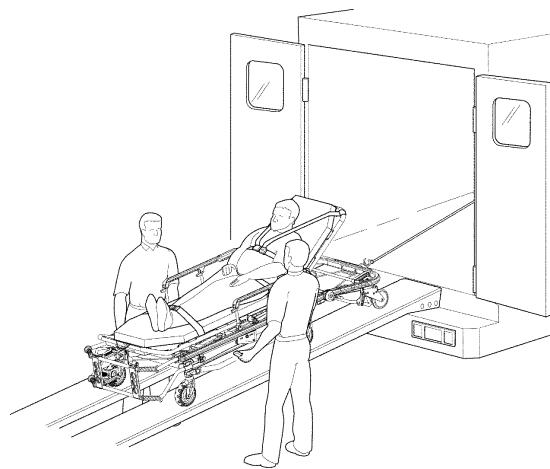

Figure 20 – Loading and unloading the cot with the tow package option
2. Make sure that the length of the loading ramp is at least 12 ft (3.7 m). Verify that the ramp can support the weight of the cot, patient, and equipment (Figure 20).